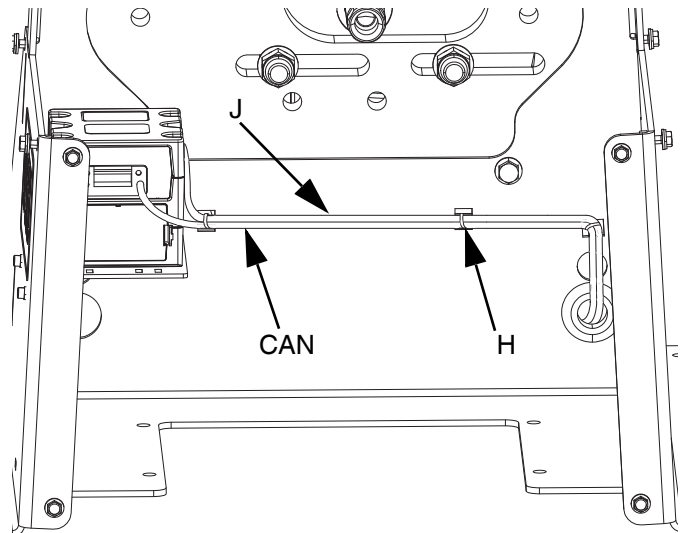

FIG. 4
4. Secure cables (CAN, J) to the frame using the cable ties (H) provided, and route them through the protected opening as shown in FIG. 4.